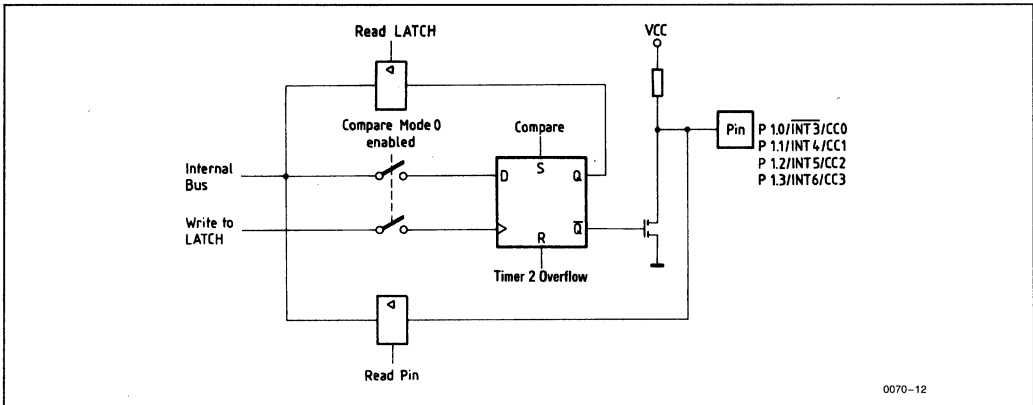

Figure 22. Functional Diagram of Port Latches P1.0 to P1.3 in Compare Mode 0
In mode 0, upon a match, the output signal changes from low to high. It goes back to a low level on timer 2 overflow. As long as compare mode 0 is enabled, the appropriate output pin is controlled by the timer 2 circuit, and not by the user. Writing to the port will operate as “dummy” instruction. Figure 22 shows a functional diagram of the port 1 latches P1.0 to P1.3 in compare mode 0. The port latch is directly controlled by the two signals Timer2 overflow and compare. The input line from the internal bus and the “write-to-latch” line are disconnected when compare mode 0 is enabled.
*) See Figures 22 and 23